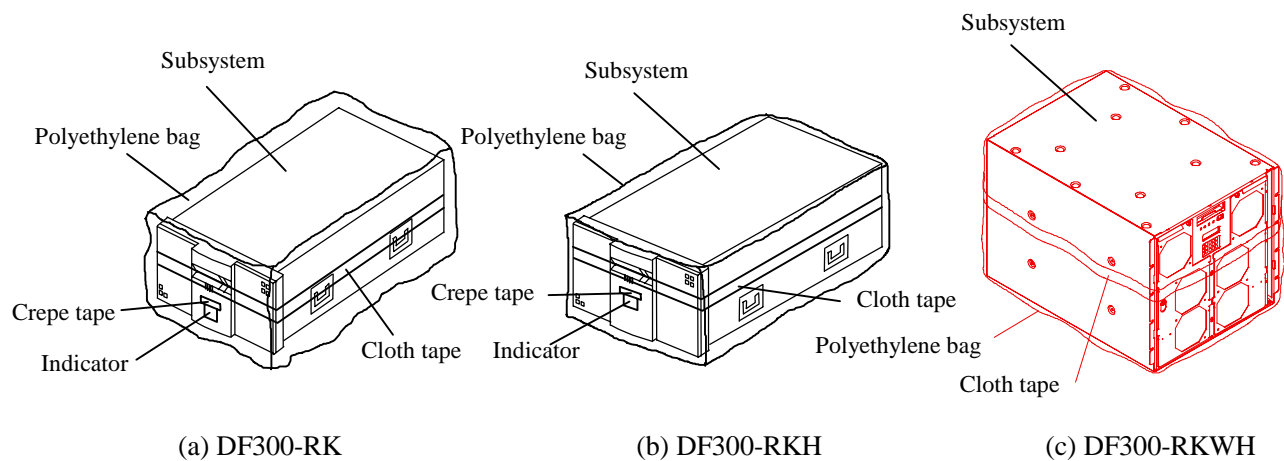

Figure 3.2 Subsystem without External Packaging
(2) Figure 3.2 shows the subsystem without external packaging.